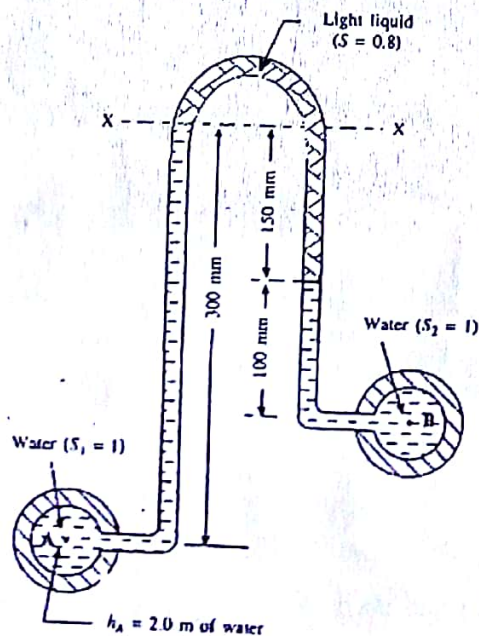

Fig. Q 2 (c)
- (c) Fig. Q 2 (c) shows an inverted differential manometer having an oil of specific gravity 0.8 connected to two different pipes carrying water under pressure. The pressure in pipe A is 2.0 metre of water. Determine the pressure in the pipe B. 5 marks